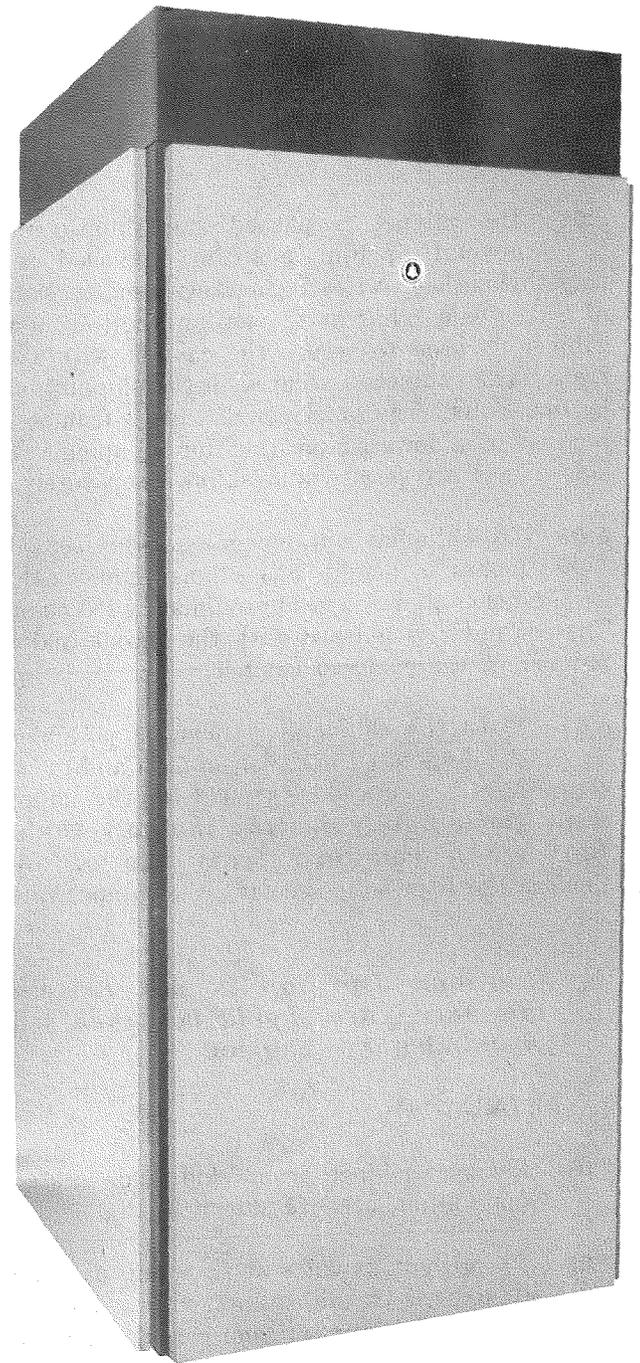

Fig. 2—761B PBX Switching Cabinet
3.01 The basic 761B PBX switching equipment for both rotary and TOUCH-TONE dial operation is listed by J numbers in Table A. All of the equipment is installed in the switching cabinet (Fig. 2) on three slides. The possible slide arrangements are shown in Fig. 3.